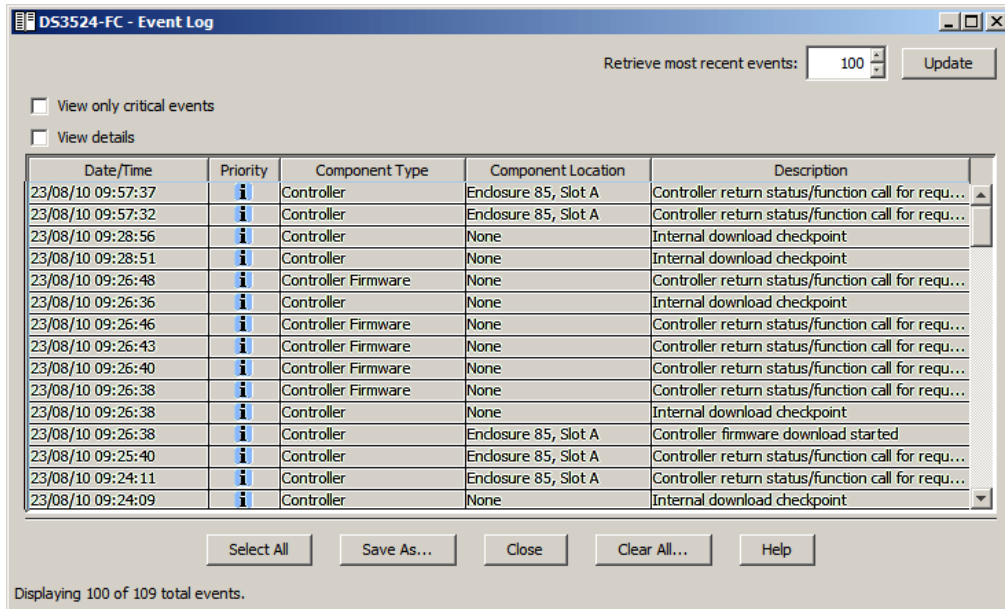

Figure 14-95 Select All events
- ▶ **Select All:** Use this button to highlight all events (Figure 14-95 on page 389).